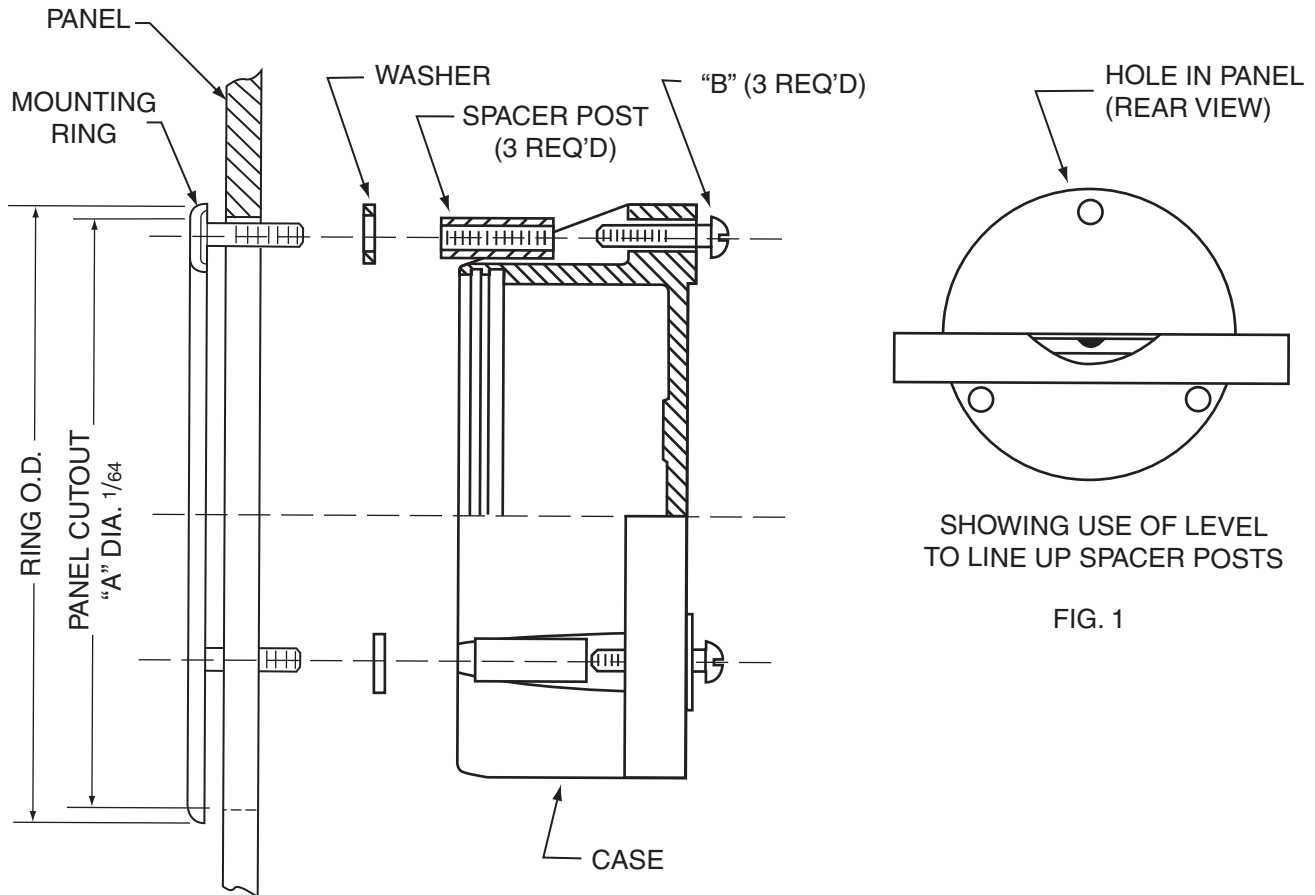

FIG. 1
5. Lay a level across two lower spacer posts and rotate ring as necessary to bring posts to a horizontal line (see Fig. 1).